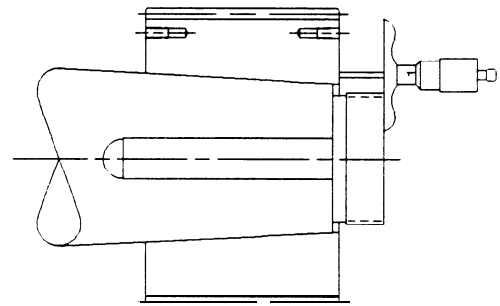

Fig. 5
- 2.2.2 Mount the gear cold by placing it on the shaft and snapping it in position by hand. Measure the cold position of the gear, using a micrometer depth gauge, as on Figure 5. Mark the position of the depth gauge, so that measurements can be taken from the same position after the gear has been mounted.